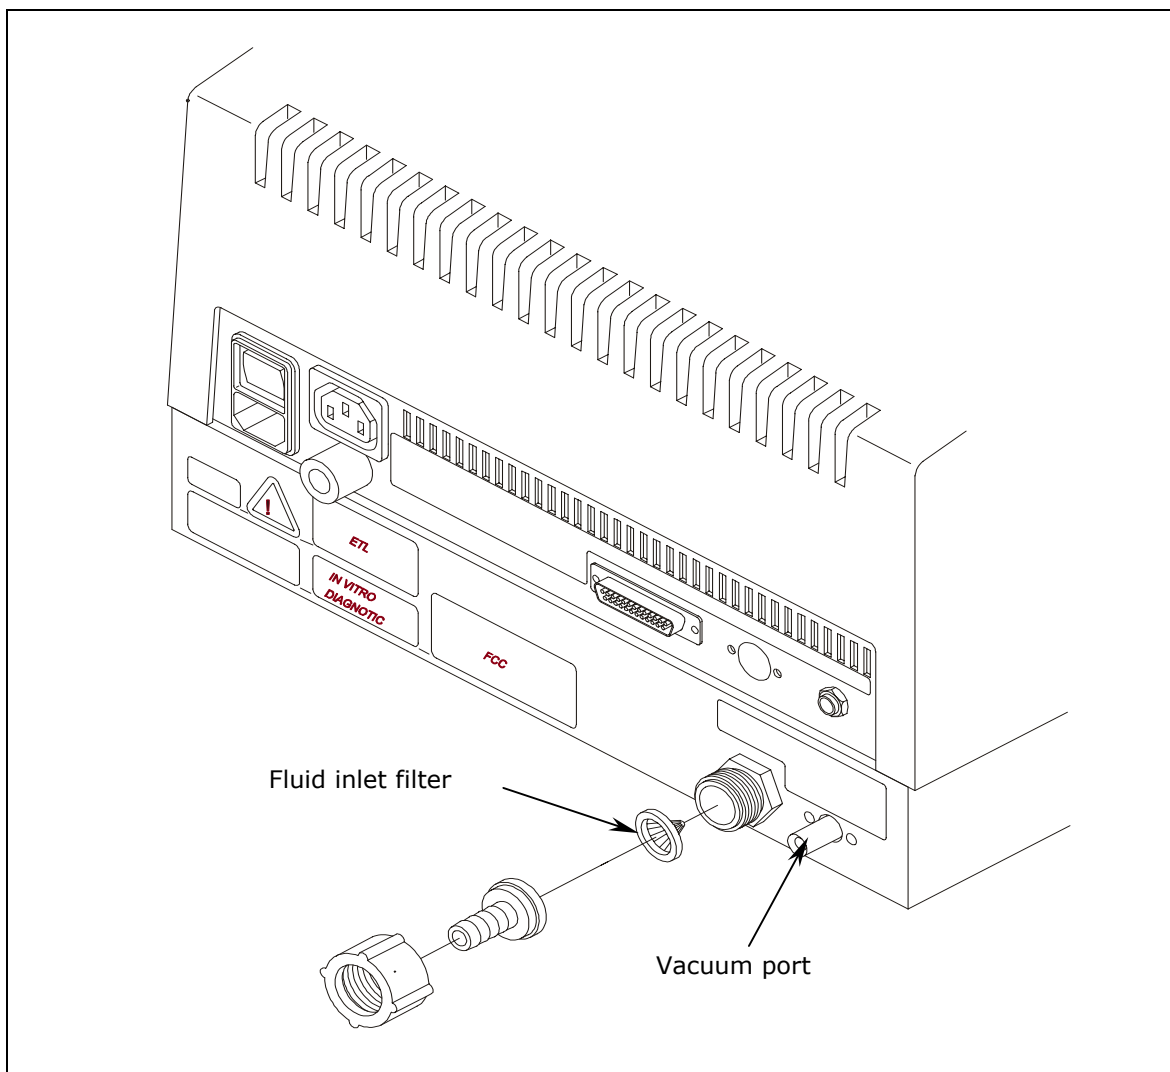

Figure 28: Cleaning the Fluid Inlet Filter
1. Unscrew the fluid inlet fitting from the back of the washer (see **Figure 28**).